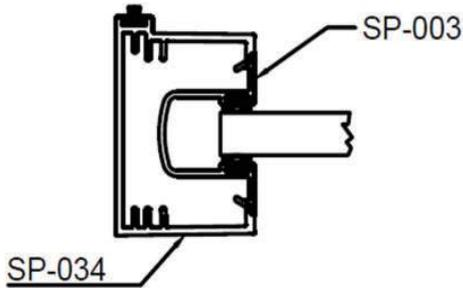

Figure 4: Detail Drawing 42
Step 4: Install sliding door post (see fig. 4).